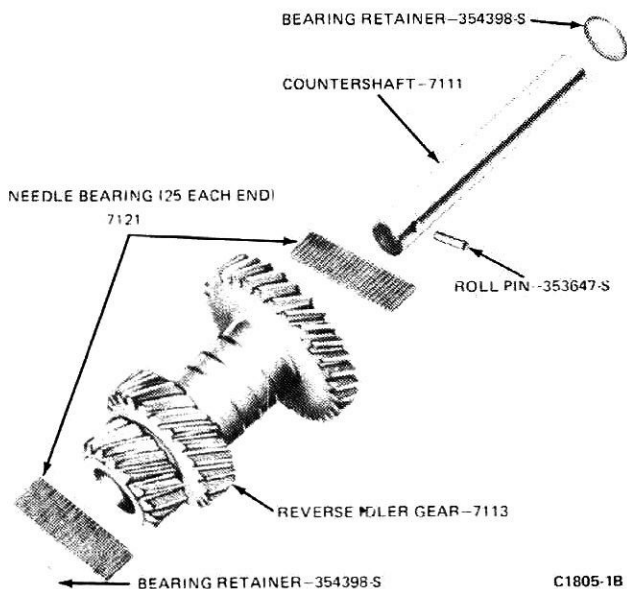

FIG. 18 Countershaft Gear Disassembled
1. Remove the dummy shaft, fifty needle bearings, and the two bearing retainer washers from the countershaft gear (Fig. 18).